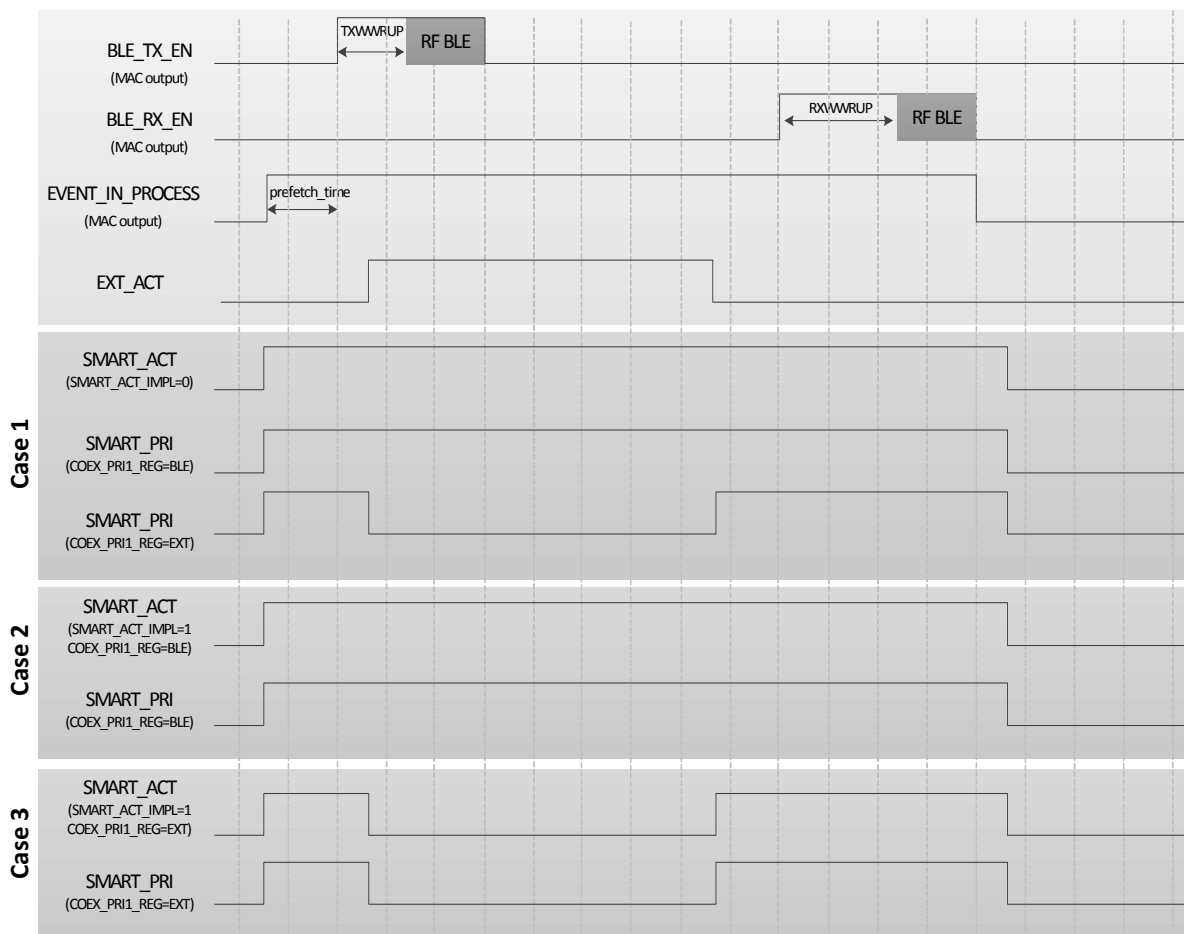

Figure 127: Coexistence signalling cases
2. SMART_ACT: this is an output from the DA14681 and when asserted it designates that the DA14681 is transmitting or receiving hence an external device should be aware of the radio activity. The exact timing of the assertion of this signal is depicted in Figure 127.
An overview of the aforementioned scenarios is presented in Figure 127.